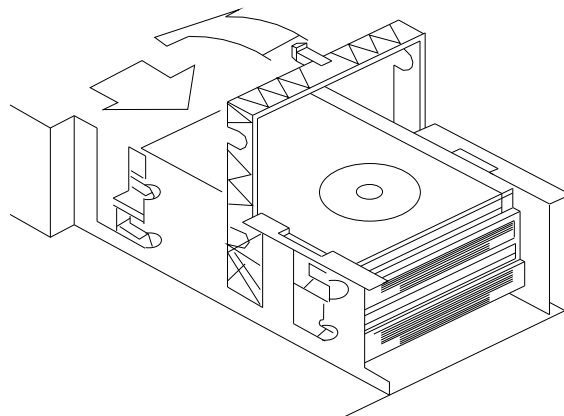

Figure D-28: Internal Hard Disk Drive — Bracket Handle Motion
8. Push the handle down towards the back of the drive (opposite of the SCSI connector) See Figure D-28. As you lower the handle, the drive will slide slowly towards the connector.